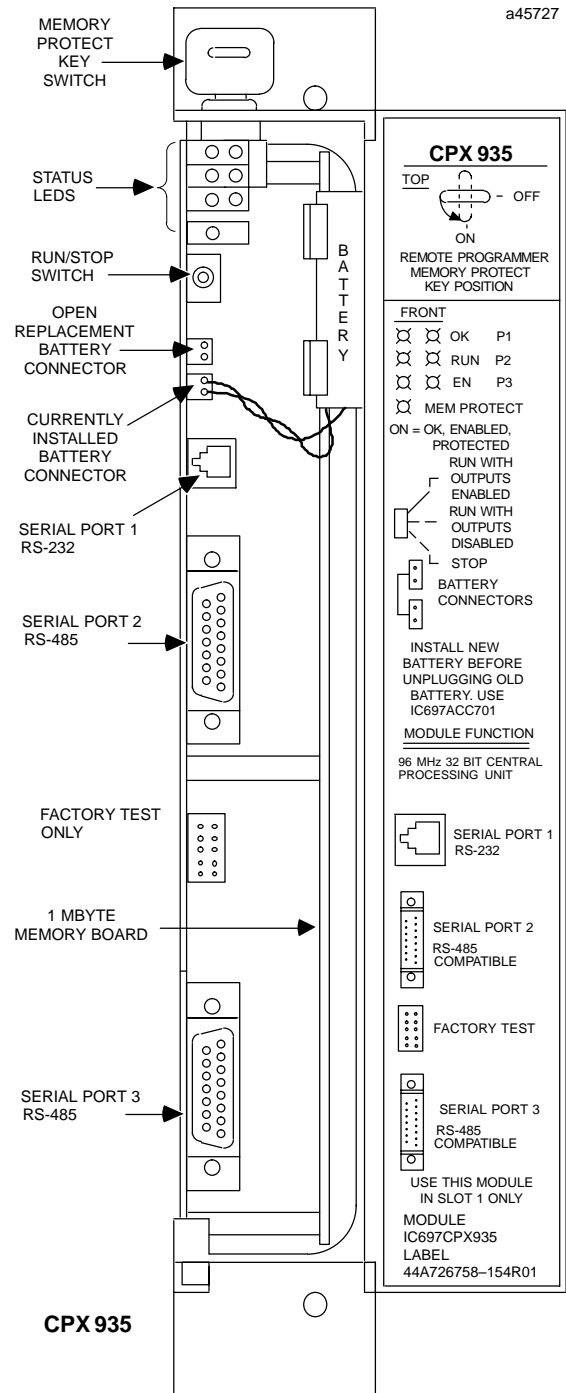

Figure 2. CPX 935 - Location of Major Features
- Connect the battery to either of the battery connectors on the module (see Figure 2).